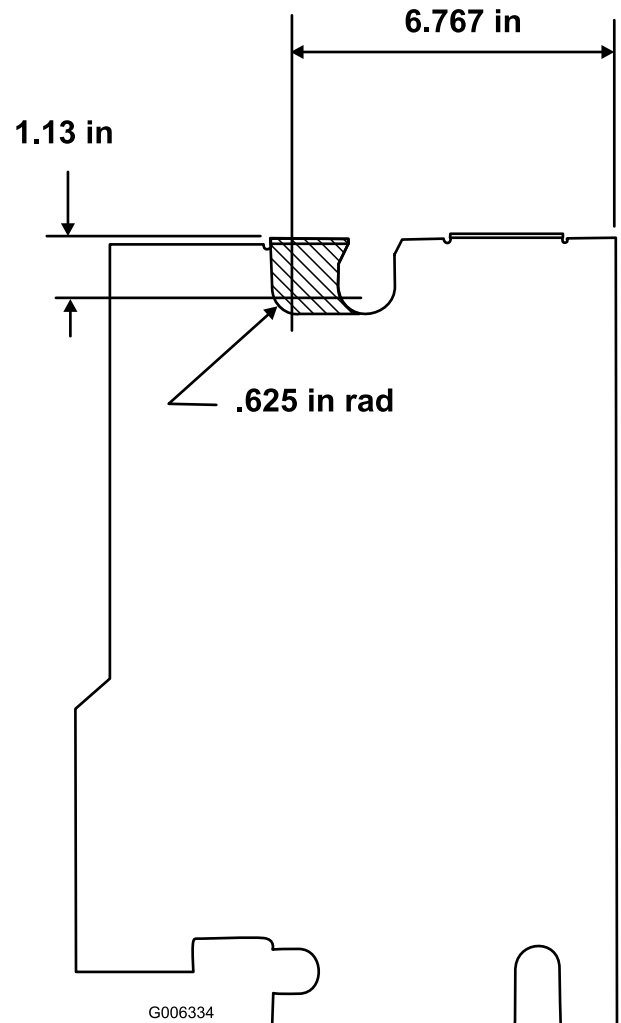

Figure 6
24. On models used internationally, use the dimensions shown in Figure 6, to locate, mark and modify the slot in the sealing plate. Remove any sharp edges from the modified area.